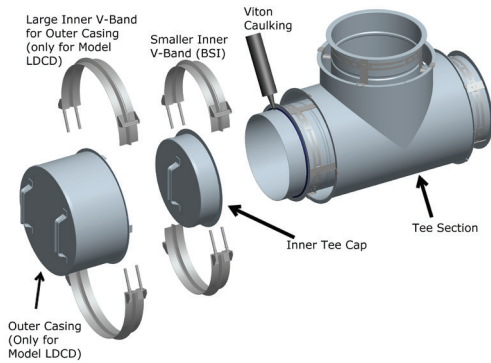

Figure 40a: Step 1 (only for Horizontal installation) Installation of the TC
STEP 1- (only for horizontal installation): Add Viton® Caulking over the Viton O-ring Gasket. See Figure 40a.
NOTE: Be sure the handle of the Cap faces outward as shown. See Figure 40a or 40b.